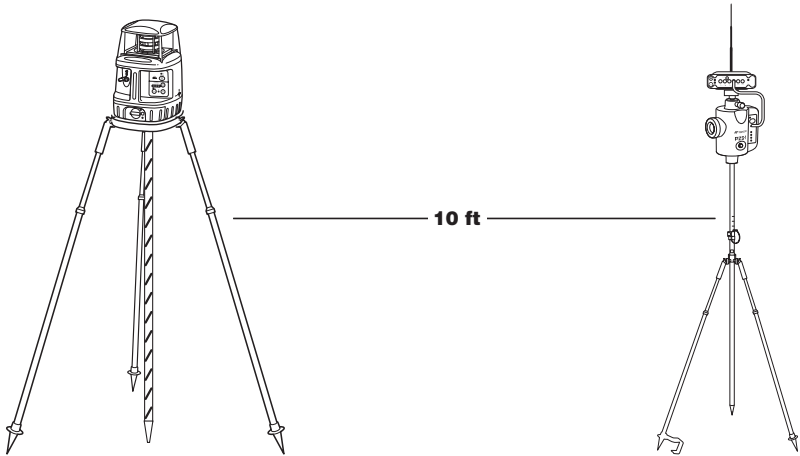

Figure 4-23. Setup Transmitter and Sensor
3. Walk several feet away from the transmitter and face the sensor towards the transmitter (Figure 4-23).